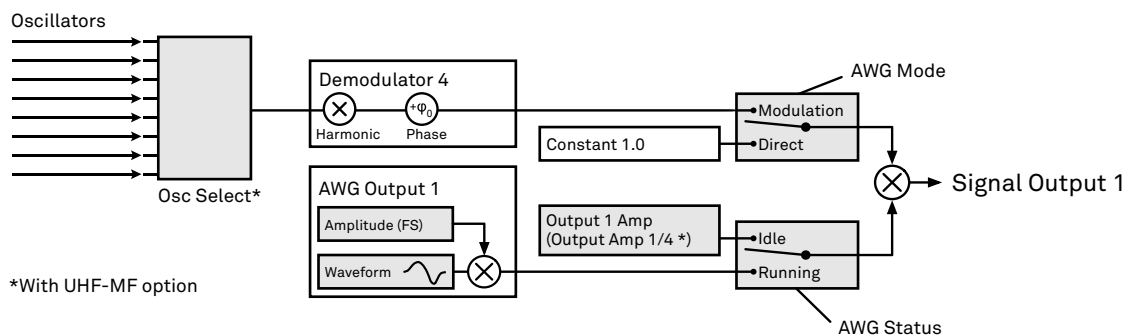

Figure 4.49. Amplitude modulation block diagram for AWG Output 1
The generation of the modulated signal depends on the settings made in the Lock-in tab. Figure 4.49 shows how the signals are routed internally on their way from the oscillators and the AWG to the Signal Outputs. There are two switches in the diagram. The upper switch is related to the AWG Mode selection. In Modulation mode, the signal coming from the AWG unit 1 (2) is multiplied with the oscillator signal of demodulator 4 (8). The phase and harmonic of the oscillator signal can be adjusted in the Lock-in tab. In Direct mode, the AWG signal is multiplied with a constant 1.0, in other words, it remains unchanged. The lower switch is related to the running state of the AWG, i.e., the **Run/Stop** and **Single** buttons. When the AWG is idle, the Output Amplitude setting from the Lock-in tab takes the place of the AWG signal. This is the standard configuration for lock-in measurements. It is furthermore useful for defining the voltage appearing on the Signal Output when the AWG is off. The UHF-MF Multi-frequency option provides additional oscillators as well as an Oscillator Select switch matrix at the input of the demodulators, enabling the use of up to 8 independent frequencies for modulation. The Register values may be used as integer variables inside a sequence program, for instance to vary a delay between pulses manually or with the Sweeper.